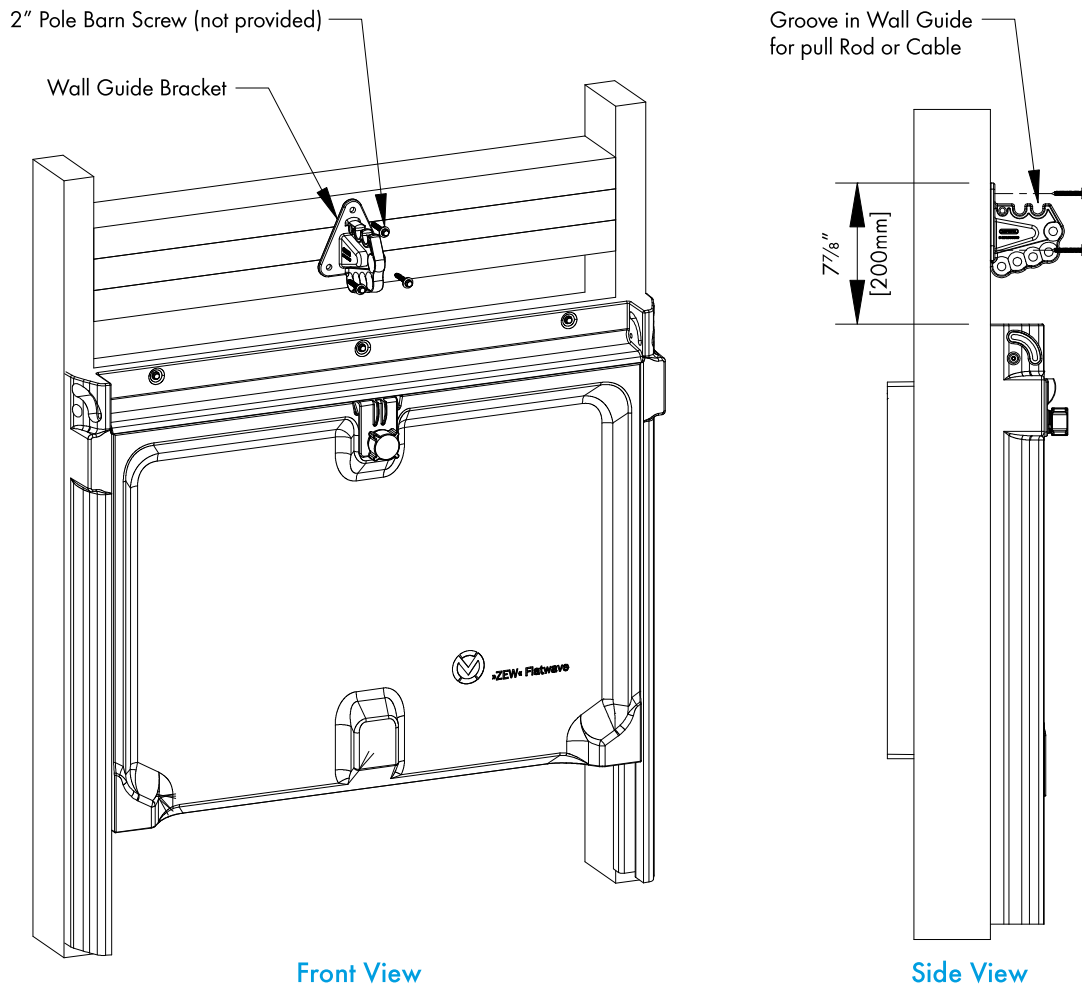

Figure 15
Install the Wall Guide Bracket $7\frac{7}{8}$ " [200mm] above the top of the inlet using (3) 2" Pole Barn Screws (not provided). Shift the Wall Guide Bracket the direction of where the actuator is so that the edge of the Wall Guide Bracket opposite the actuator is lined up with the center of the Door Holder. See Figures 15.